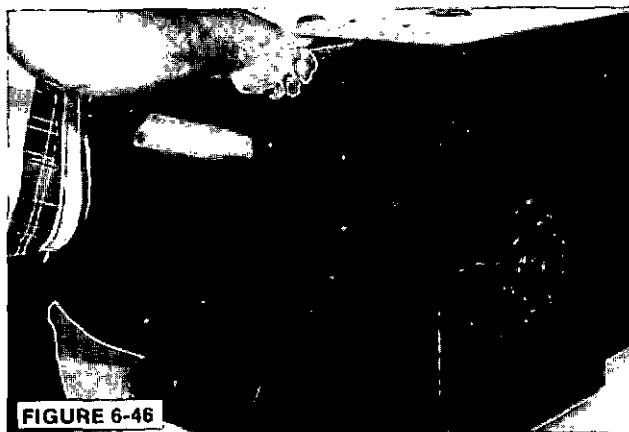

FIGURE 6-46
3. Install regulator panel assembly. (Figure 6-46.)